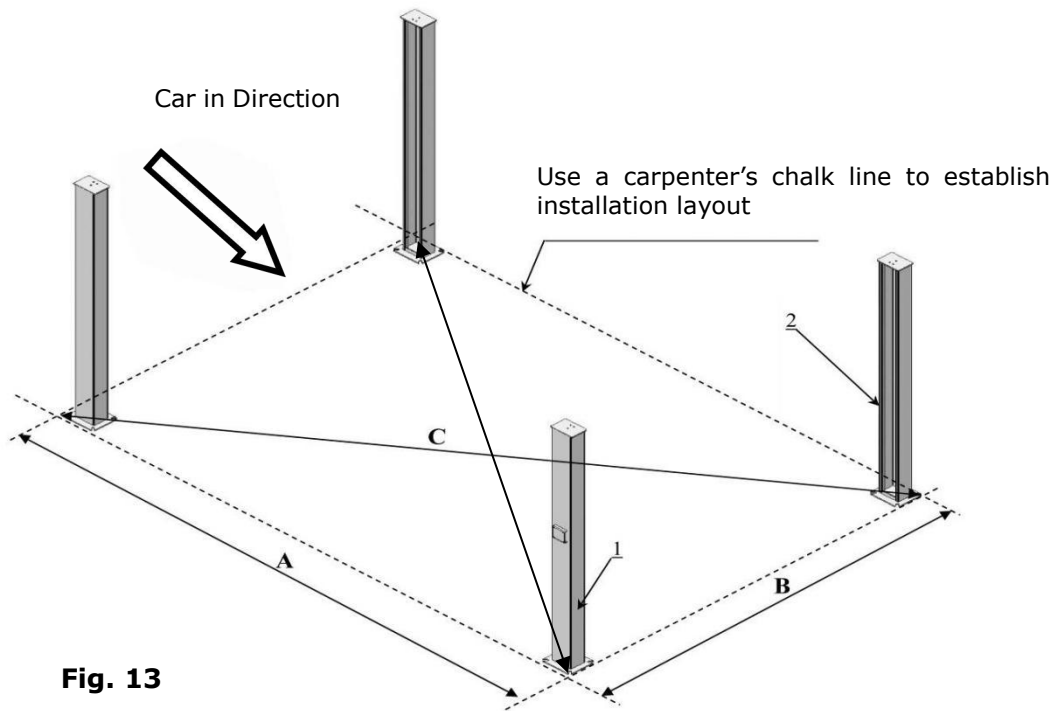

Fig. 13
C. Use a carpenter's chalk line to establish installation layout as per Table 1. Make sure the size is right and base is flat (see Fig. 13).